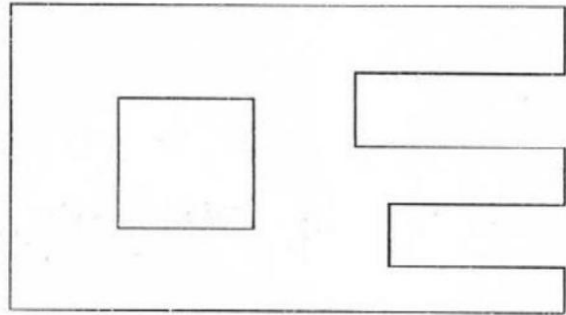

Fig. 6
- Copy Fig. 6 to 1:1 scale and dimension it using unidirectional system with Combined dimensioning method